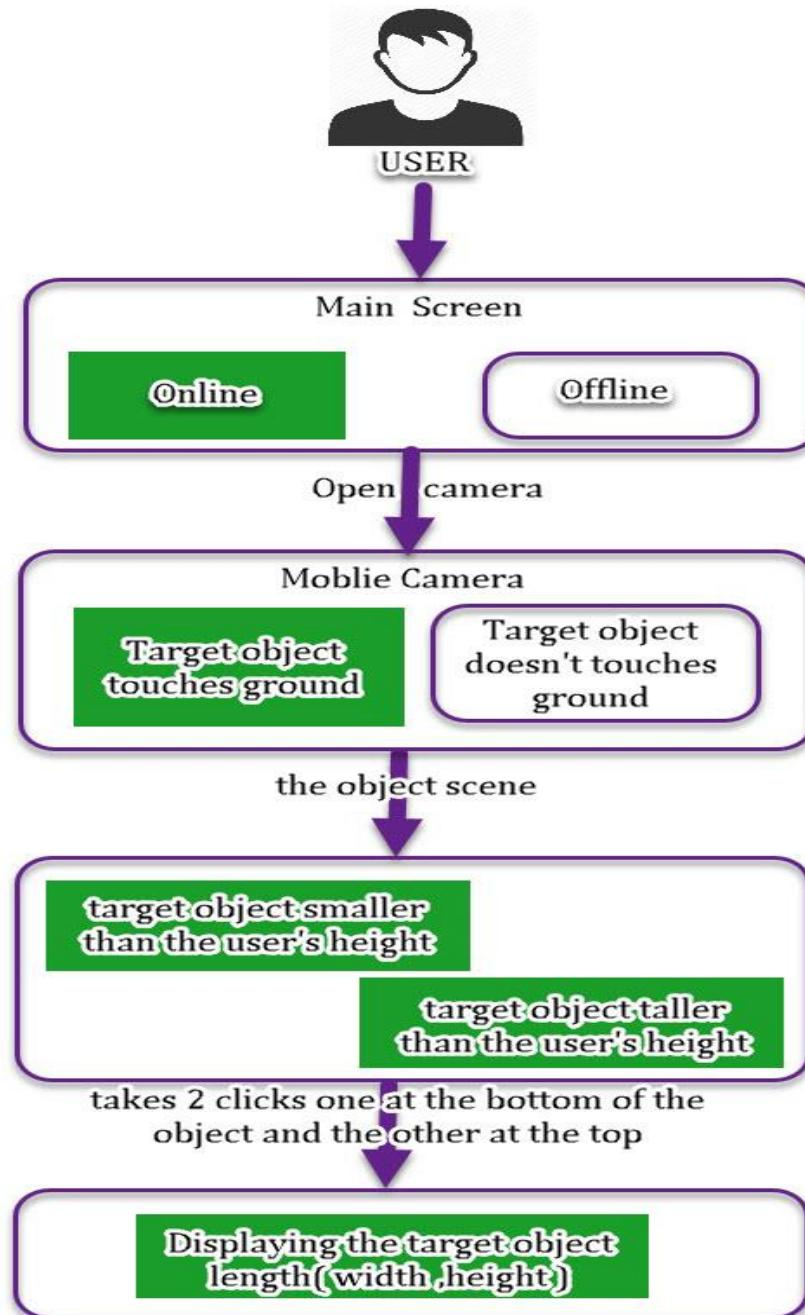

FIGURE 2 : ON-LINE MODE (TARGET OBJECT TOUCHES GROUND)
- Laser rangefinder: rangefinder which uses a laser beam to determine the distance to an object. The most common form of laser rangefinder operates on the time of flight principle by sending a laser pulse in a narrow beam towards the object and measuring the time taken by the pulse to be reflected off the target and returned to the sender (see Fig. 2).